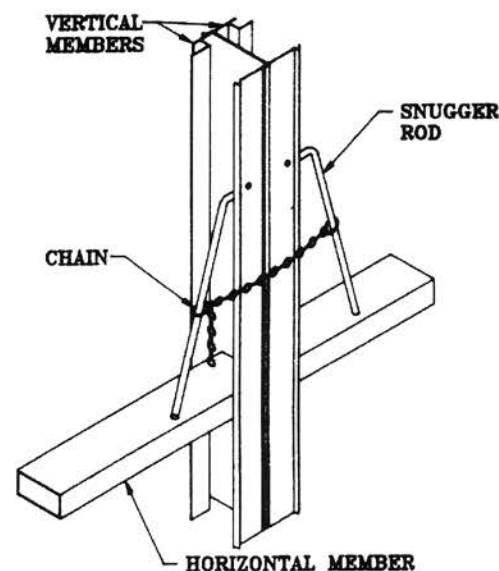

Figure 13
Slip the larger link on the end of the chain over the snugger rod, and insert snugger rod into the 17/32" hole in the horizontal door member. Secure opposite end of snugger rod to vertical member using one (1) 1/4" fastener and nut. Figure 13. Install the second half of the snugger rod in the other door, following the above procedure except that no chain link is put on the rod. Attach the "S" hook to the chain.
To latch the two doors together, merely hook the "S" hook onto the snugger rod as shown. The more the door rattles, the tighter the latch becomes. After making certain the "S" hook is in the proper link (latched chain should be about 6" from top of horizontal member), close the "S" hook slightly so it will not become detached from chain. Figure 13.